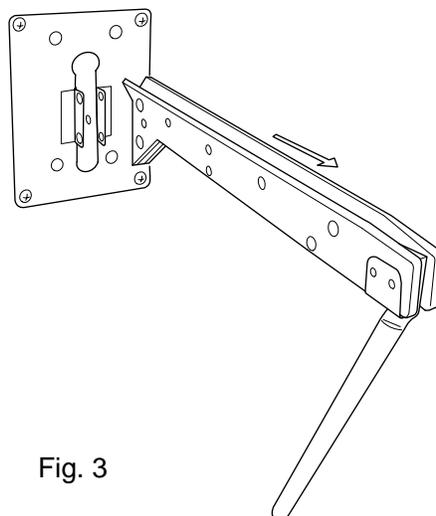

Fig. 3
- 2) Remove the Prize Arm. (See Fig.3)